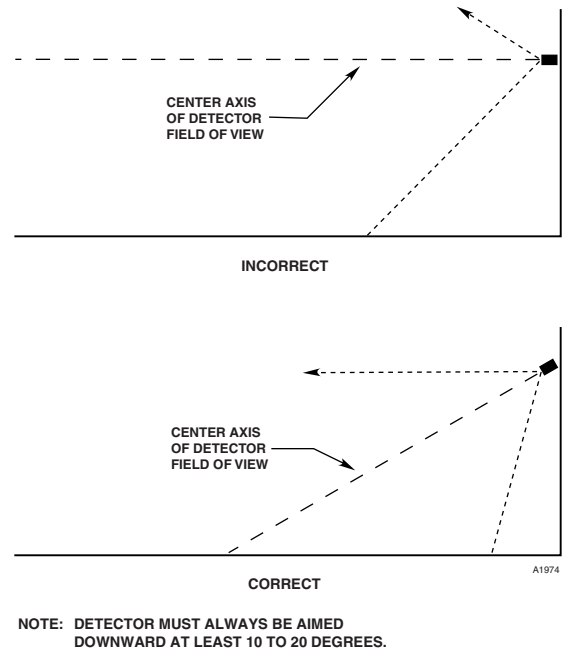

Figure 1—Detector Orientation Relative to Horizon
- For outdoor applications, the detector should be aimed downward at least 10 to 20 degrees to prevent it from scanning the horizon. This minimizes response to distant UV sources outside the protected area. See Figure 1.